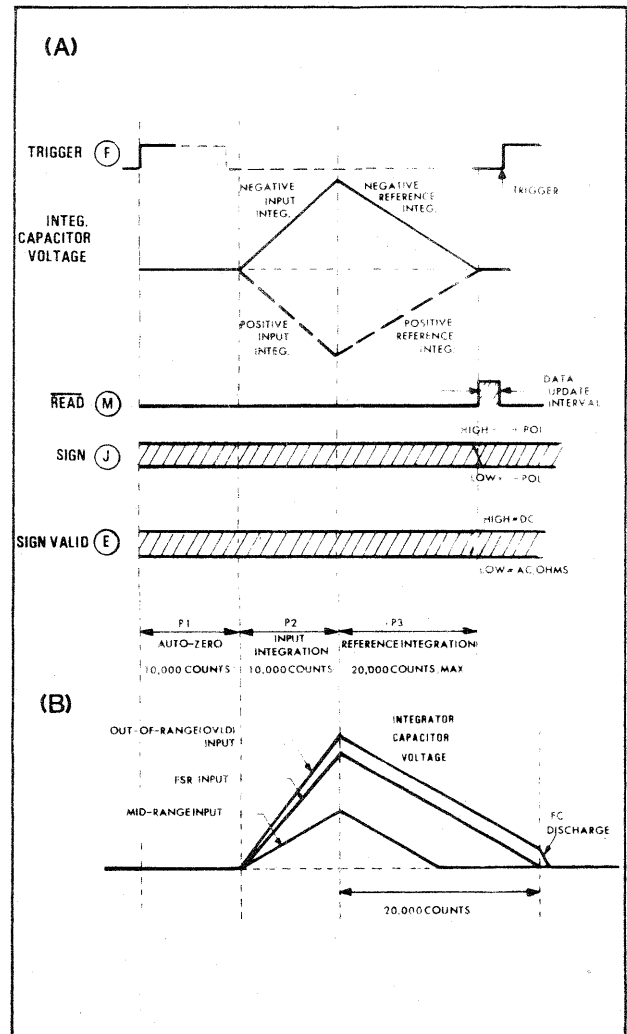

Fig. 4-2. System Timing Diagram
4.3 SYSTEM TIMING & WAVEFORMS (FIGURE 4-2)